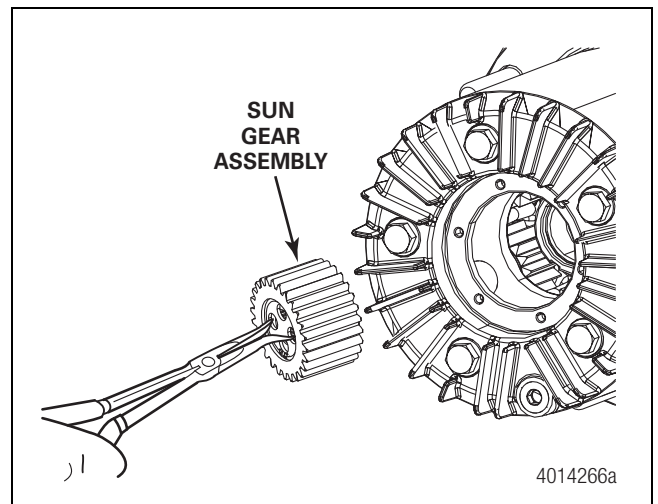

Figure 12.16
3. Insert the sun gear assembly into the hub housing. Rotate the hub to engage the sun gear assembly with the axle shaft splines and planet gears. Figure 12.16.